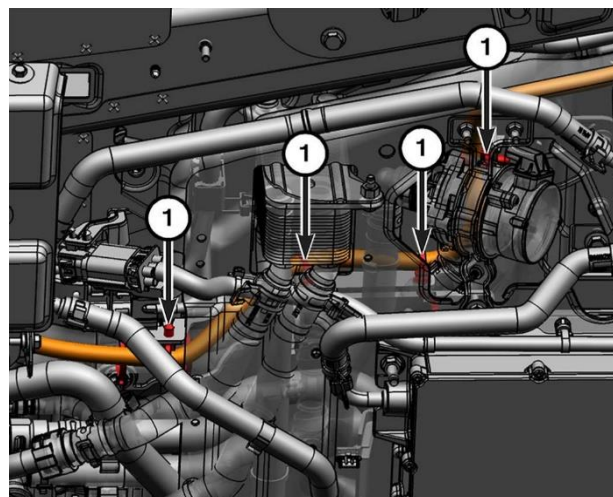

Figure 35 – 12-Volt Cable
21. Carefully lower the battery charger bracket to release the remaining 12-volt Cable clips (1) (Figure 35).
27. Secure the clips (1) making sure that they are properly positioned (Figure 35).